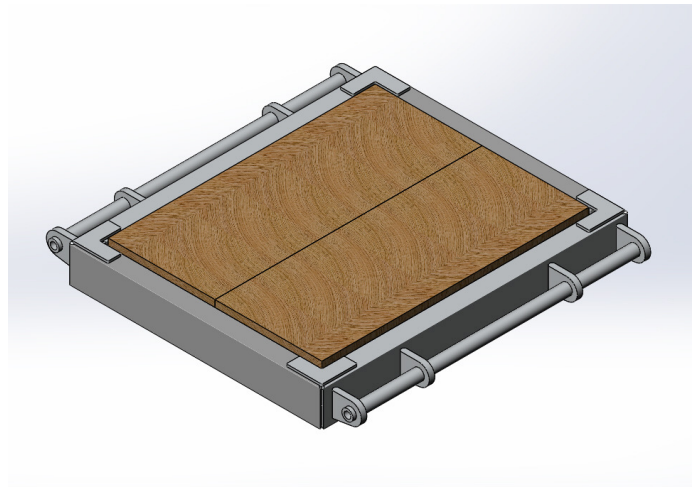

FIGURE 2
5. Wood blocking must be placed in the jacking pad to prevent metal-to-metal contact and possible jacking pad damage. The blocking must be 1" thick or greater. A minimum of 2" thick blocking is recommended (Figure 2).